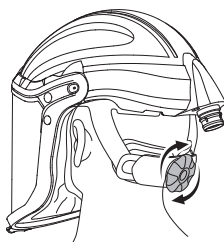

fig.1b
- Adjust the back headgear knob until the face shield fixed on the head properly (See fig.1b).